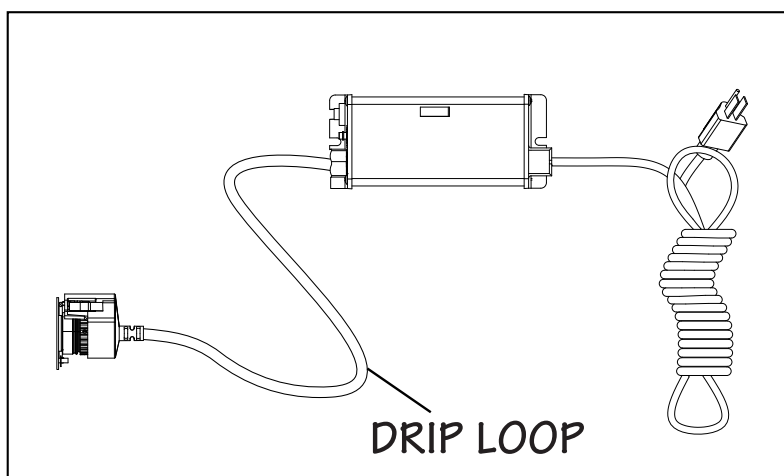

Figure 6 Drip Loop
- The controller should be mounted either above or beside the chamber. Always mount controller horizontally to prevent moisture from running down cordage and causing a potential fire hazard. Drip loops in all cordage connected to controller is highly recommended. Refer to Figure 6.
4. Mount the VIQUA ICE controller horizontally to the wall, near the chamber. Ideally place the controller above the chamber and away from any water connection point, to prevent any water from potentially leaking onto the controller by means of a leak at a connection point or a “sweating” system. Make sure you allow for a “drip-loop” as shown in Figure 6 on the lamp, sensor, and power cord, again, to prevent any water from potentially entering the controller.